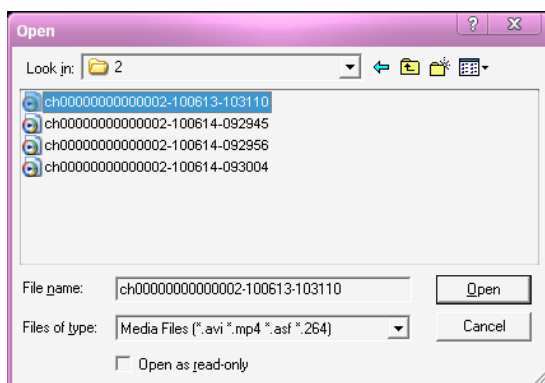

Fig. 2-15
- 2) Click “ ” to open the video recorder in “*.avi” or “*.264” format (shown as Fig. 2-15).